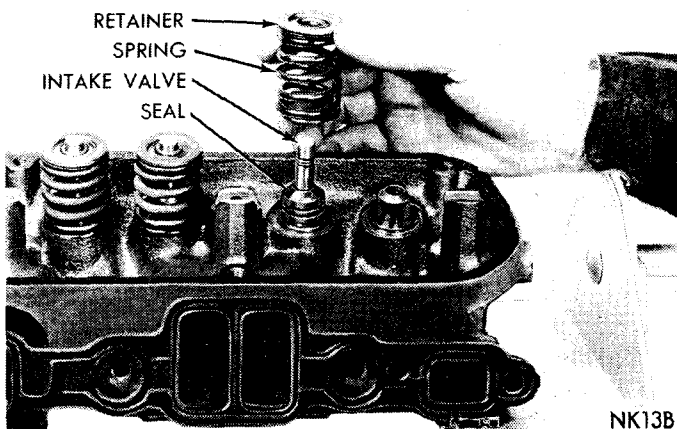

Fig. 17—Installing Valves, Cup Seats, Springs and Retainer
(3) Install new cup seats on all valve stems and over valve guides (Fig. 17). Install valve springs and retainers.
(4) Compress valve springs with Tool C-3422A, install locks and release tool. If valves and/or seats are reground, measure the installed height of springs, make sure measurement is taken from bottom of spring seat in cylinder head to the bottom of spring